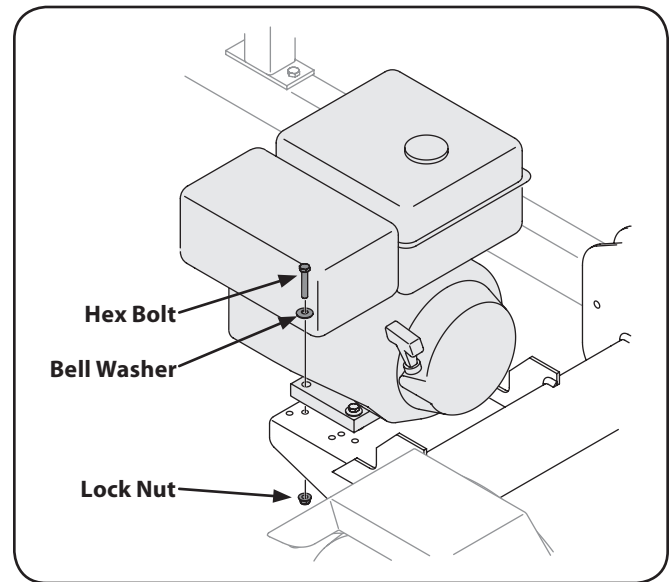

Figure 3-8
4. Secure the engine and pump assembly with the four hex bolts, bell washers and lock nuts removed earlier. Using a torque wrench, tighten to 14 ft-lbs. See Fig. 3-8.